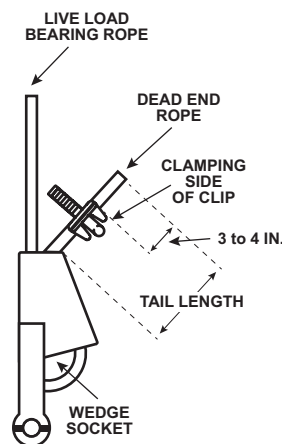

FIGURE 1
- Dead end wire rope tail length should be at least 6 rope diameters, but not less than 6 inches beyond the wedge socket. See Figure 1.
- Apply U-bolt and first saddle on dead end rope and the second saddle on live end rope. Install nuts. See Figures 1 & 2.
- Position the dual saddle clip so that 3 to 4 inches of dead end rope remain beyond the clip. See Figures 1 & 2.
1. Turn back specified length of wire rope from thimble (see tables on next three pages). Put first clip one saddle width from seized "dead end" (Fig. 1). Seat "live end" (load carrying part) of wire rope in saddle and position U-bolt over "dead end." Remember: **"Never saddle a dead horse."** Tighten nuts evenly to proper torque (see tables on next five pages).